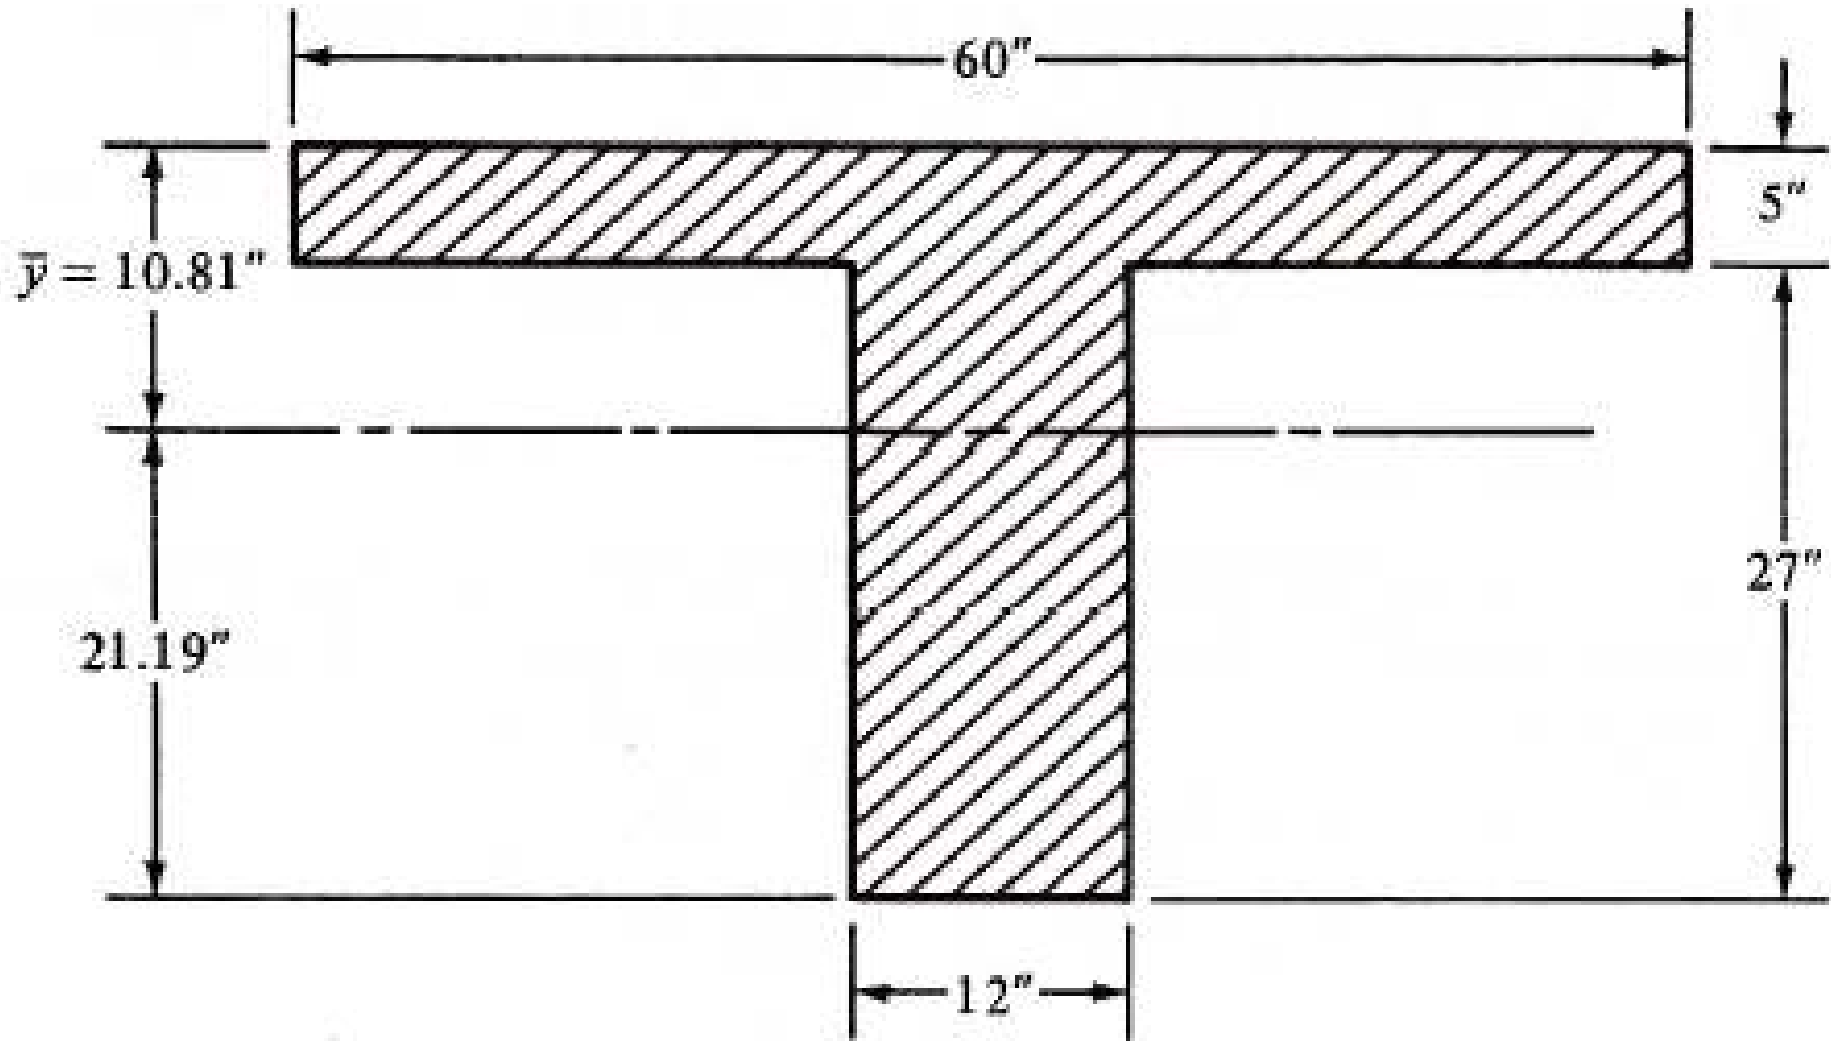

Figure 6.8
1. Locating centroidal axis for uncracked section and calculating gross moment of inertia I_g and cracking moment M_{cr} for the positive-moment region (Figure 6.8)
The Code does not require that the designer ignore the flanges in tension for this calculation. The authors used this method to be conservative. If the tension flanges are considered, then the cracking moment is calculated from the section in Figure 6.8. The value of \bar{y} is taken to the top of the section (10.81") because the top is in tension for negative moment, so